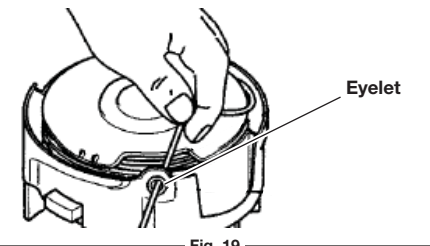

Fig. 19
- Insert a line through each of the two eyelets on the hub (Fig. 19).